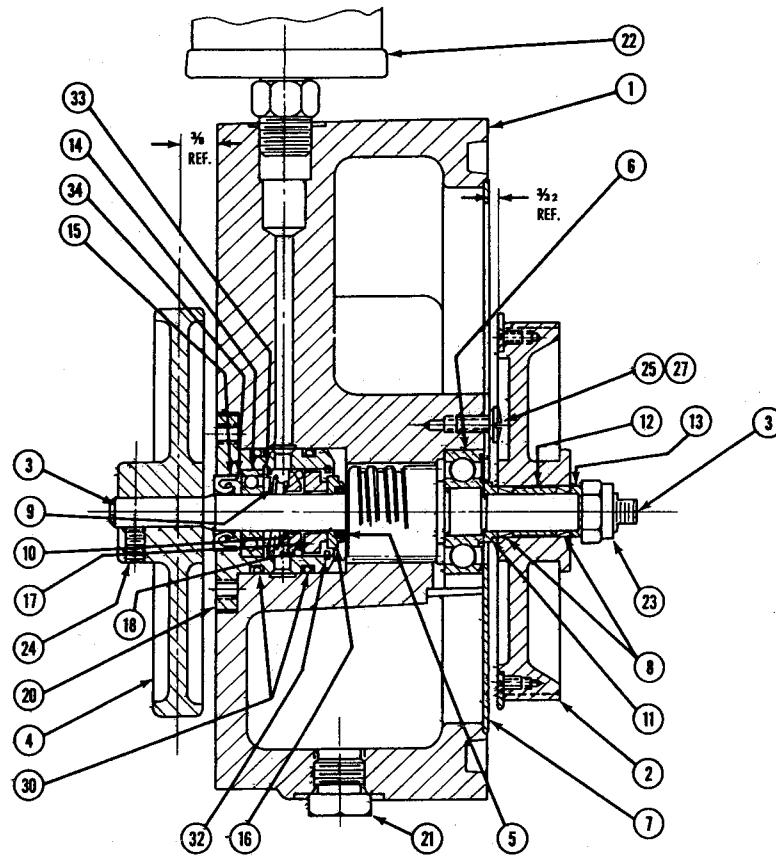

FIG. 7 TRANSMISSION SECTION SHOWING CARTRIDGE SEAL
10.0 TRANSMISSION SEALS -- Two seals are located in the transmission assembly: a lip seal and a face seal. Both are contained in a seal cartridge. It is necessary to consider possible leaks in the seal cartridge region more thoroughly than is practical in the troubleshooting section. Referring to Fig. 7, consider the path taken by oil as it flows downward from the transparent oiler (22) and fills the area between the lip seal (15) and the face seal (16 and 17). The pressure on the oil is one atmosphere plus the head of oil up to the level in the transparent oiler. Beginning at the point where the vertical hole leading from the oiler meets the hole in the seal cartridge (20) the oil can creep outwards (to the left) until stopped by the outer "O" ring (30). This ring (30) only seals against a three-inch "head" of oil as does the stationary lip seal (15) which seals against the seal cartridge (20) and the rotating drive shaft (3). Starting again at the junction of the oil holes, the oil can also creep inward (to the right) until stopped by the inner "O" ring (30) which seals against vacuum. As does the outer "O" ring, the inner "O" ring must also form a seal between the seal cartridge and the housing (1). The next seal to consider is at "O" ring (18). The spring (9) and cone (10) force "O" ring (18) against the seal cartridge (20) and the carbon half of the face seal (17) which is stationary, forming a seal at both lines of contact against vacuum. The stationary carbon half of the face seal, when lubricated with oil, forms a vacuum seal with the steel half of the face seal (16) which is rotating with the drive shaft (3). The steel face seal is sealed to the drive shaft with a rubber ring insert (5).
- 10.7 To disassemble the seal cartridge assembly (5), the internal face seal spring must be compressed. Needed for this operation are a 5/16" x 2" temporary bolt and nut, a washer to rest against the exterior (lip seal) end of the seal cartridge, and a fibre or nylon washer to depress the carbon face seal. When reference is made in this section to Fig. 7, visualize the seal cartridge assembly (5) (Fig. 17) as standing alone. By using both Fig. 17 and Fig. 7, it will be easier to disassemble the components. Fig. 8 shows the disassembled seal cartridge components.
- 10.7.1 Put the temporary nylon washer on the temporary bolt and insert the bolt through the seal cartridge from the face seal (17) (Fig. 7) end, being very careful not to touch the polished carbon face with the bolt. Install the washer and nut on the bolt at the lip seal (15) (Fig. 7) end of the cartridge and tighten the nut until the carbon face seal is depressed enough to allow removal of the internal retaining ring (32) (Fig. 7), (6) (Fig. 17).
- 10.7.2 Remove the internal retaining ring (32) (Fig. 7), which is a spiral spring, by lifting one end with a small screwdriver and spiralling the ring out (see Fig. 9).
- 10.7.4 Remove the carbon face seal (17) (Fig. 7), "O" ring (18), cone (10), and spring (9). See Fig. 8.
- 10.7.5 Cover the drive shaft (3) (Fig. 7) with a thin plastic or rubber tube to protect it from scratches during the next operation.
- 10.7.6 Use a pair of long-nosed pliers to grasp the outside of the steel face seal (16) (Fig. 7) which remained on the drive shaft. Pull the face seal off the shaft, exercising caution to avoid scratching the drive shaft or the transmission housing. Be sure the rubber insert (5) (Fig. 7) is also removed.
12.2 Remove the internal retaining ring (8) (Fig. 17) and the left drive shaft bearing (9) (Fig. 17), being careful not to scratch the inside of seal cartridge (13) where it forms a seal with the "O" ring (18) (Fig. 7).